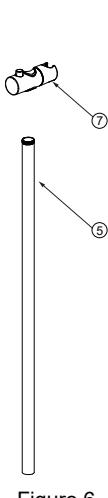

Figure 6
- a) Insert the slider ⑦ over the riser rail ⑤ (Figure 6).